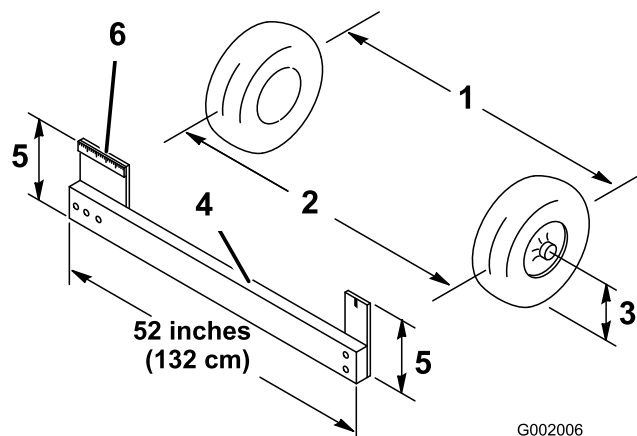

Figure 60
4. Measure the distance between both of the front tires at the axle height at both the front and rear of the front tires (Figure 60). A fixture or alignment gauge is needed for the rear
measurement of the front tires at axle height. Use the same fixture or alignment gauge to accurately measure the front of the front tires at axle height (Figure 60).